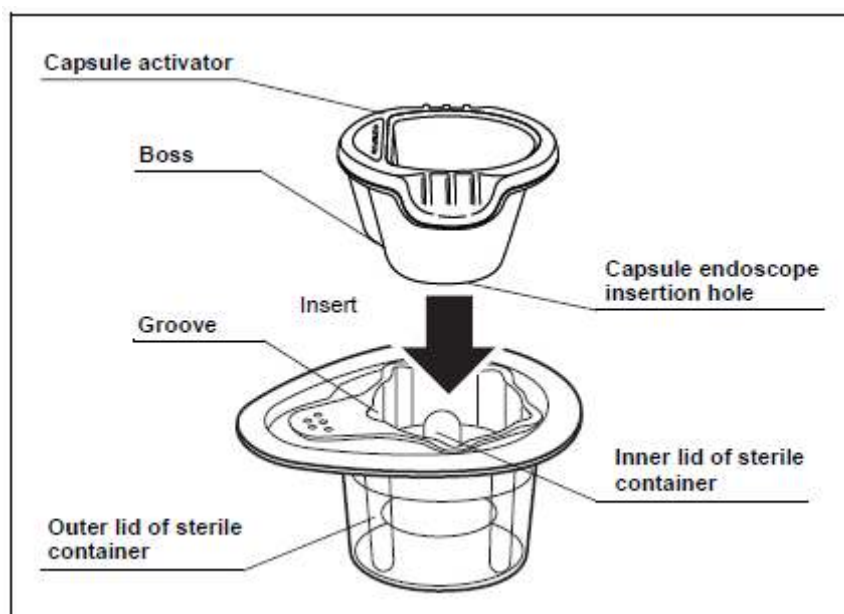

Figure 4.25
3. Hold the sterile container, taking care not to squeeze it. Adjust the direction of the activator's boss to the closest groove to the handle of the inner lid of the sterile container. Insert the capsule activator straight along with the groove. The capsule endoscope will turn ON (see Figure 4.25). When the capsule endoscope is turned ON, the LED illuminates.